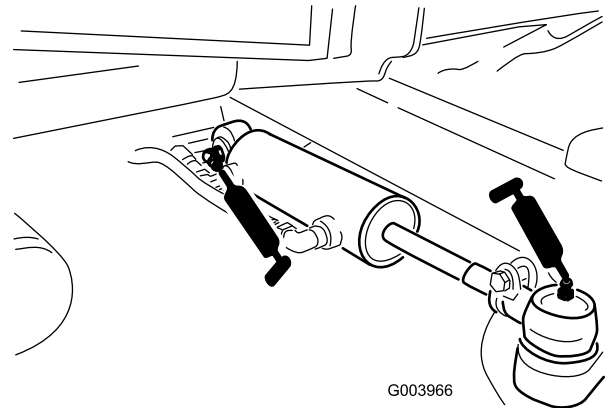

Figure 49
- Steering-cylinder-ball joints (2) (Figure 49)